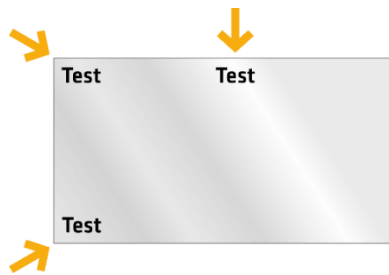

Figure 37: Test locations
2. Perform the following test at least at two adjacent corners and in the middle of one side of the IG unit (Figure 37).